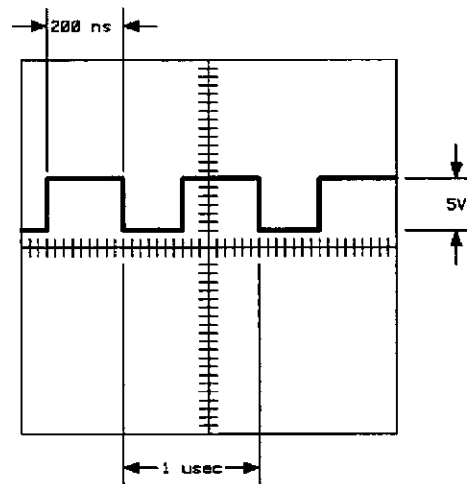

Figure 5-52. PAC Adjustment Waveform
4. Set Oscilloscope channel 2 input to DC coupled, 50Ω impedance, inverted. Adjust Pulse Generator amplitude to display waveform as shown in figure 5-52.